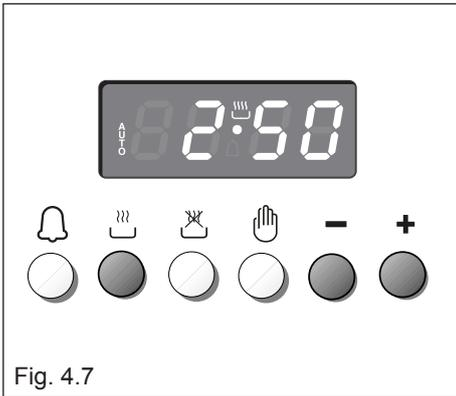

Fig. 4.7
1. Set the length of the cooking time by pushing the button and the **+** button to advance, or **-** to go backwards if you have passed the desired time (fig. 4.7).